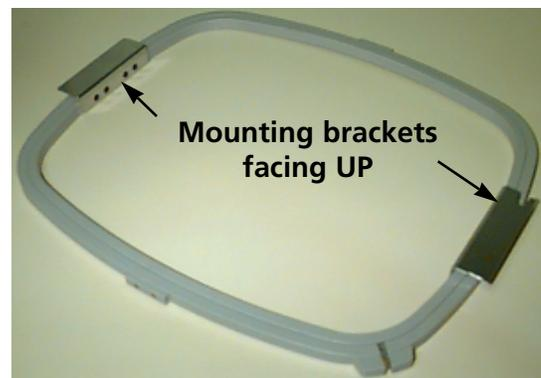

Figure 3-1
2. Place the outer hoop on a flat surface with the hoop's mounting bracket facing up. Refer to Figure 3-1.